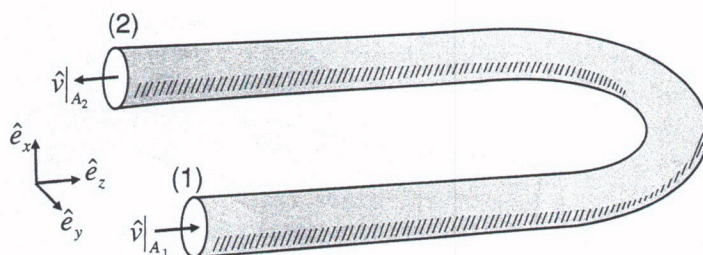

Figure 3.41
41. An incompressible fluid (i.e., density is constant) enters a U-shaped conduit flowing at a steady flow rate of Q gpm (Figure 3.41). The conduit has a circular cross section all along its length and the radius of the conduit is R . What is the average velocity of fluid entering the conduit in terms of these variables? What is the average velocity of fluid exiting the conduit?
The convective term is the integral in the Reynolds transport theorem, and this term accounts for the net loss of momentum from the control volume through its bounding surfaces. Consider two cases of flow with an average inlet velocity of $\langle v \rangle$: (a) steady flow through a straight tube of radius R , and (b) steady flow through a U-shaped tube of radius R (see Figure 3.41). For Case (a), the convective term is zero; for Case (b), the convective term is not zero. Perform each calculation and explain the results.